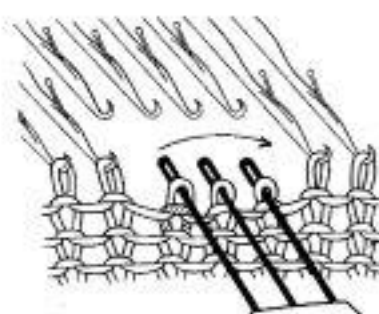

Fig. 42-1
- Continue moving the stitches outwards until you have an empty needle at the point where you wish to increase. (Fig. 42-1)